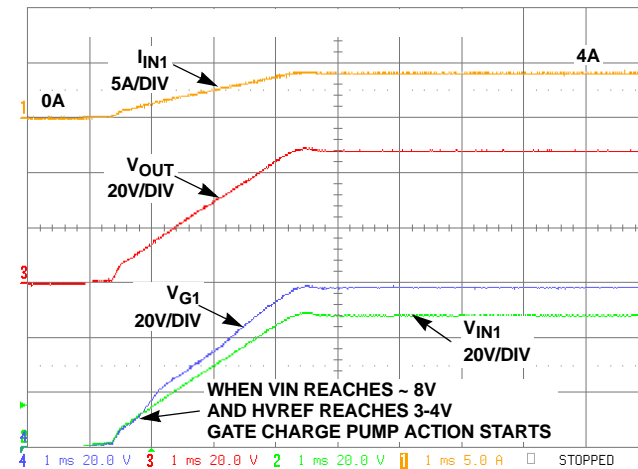

FIGURE 19. FIRST FEED  $V_{IN1}$  START-UP (48V CASE)
**Option 2:** Using a custom designed DC/DC converter Power Board which consists of two DC/DC modules connected in current sharing configuration, each DC/DC module output can be turned off slowly using the ON/OFF pin or can be shorted using on-board Power MOSFET (refer to Figure 19). In this case also similar considerations for  $C_{out}$  and type of load apply as in option 1 above.
The ISL6144EVAL1 is hooked up to two input power supplies using test setup shown in Figure 18 or Figure 19. Note that the ISL6144EVAL1 is populated with one FDB3632 MOSFET per feed (Nominal value of the MOSFET's  $r_{DS(ON)}$  is approximately  $8m\Omega$  at  $V_{GS} = 10V$ ).